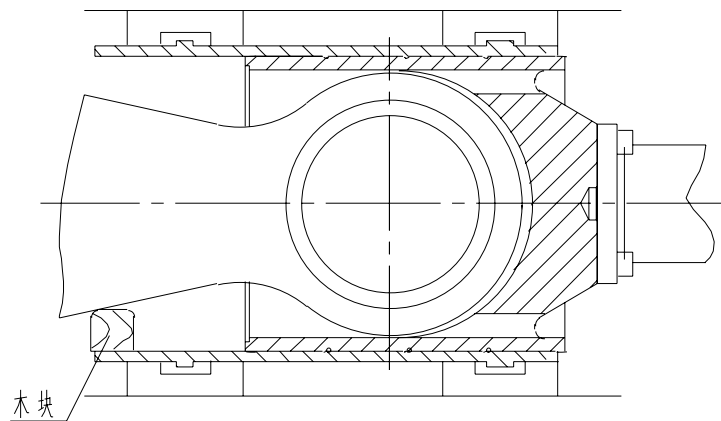

Fig.16 Installation of connecting rod
1) Place a piece of wood between small end of connecting rod and crosshead guide (as shown in Fig. 16) to protect guide from scoring or gouging as the connecting rod are sliding into position.
The crossheads in the pumps can be installed through the front (fluid end) or back end of the crosshead guide. Refer to Fig.16, when installing crossheads, and observe the following precautions:
- 2) Position "eye" of eccentric at the opening in the side of the crosshead guide. Block eccentric strap so that crosshead will clear the "eye" as it is sliding into position to where the crosshead pin holes are in alignment. Refer. Fig 16.